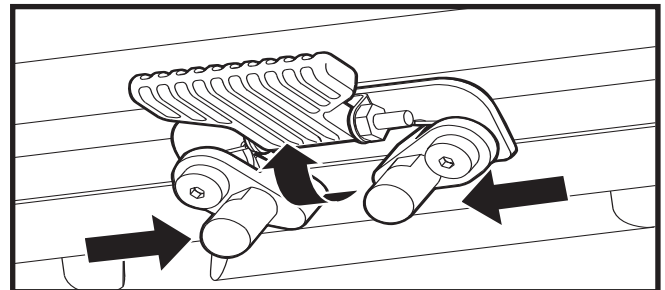

Figure 11. Seat Height Adjustment - Seat Latch Safety
4. Flip up the seat latch safety. **See figure 11.**
5. Squeeze the seat latch and release the seat from the front trapeze bar. **See figure 11.**